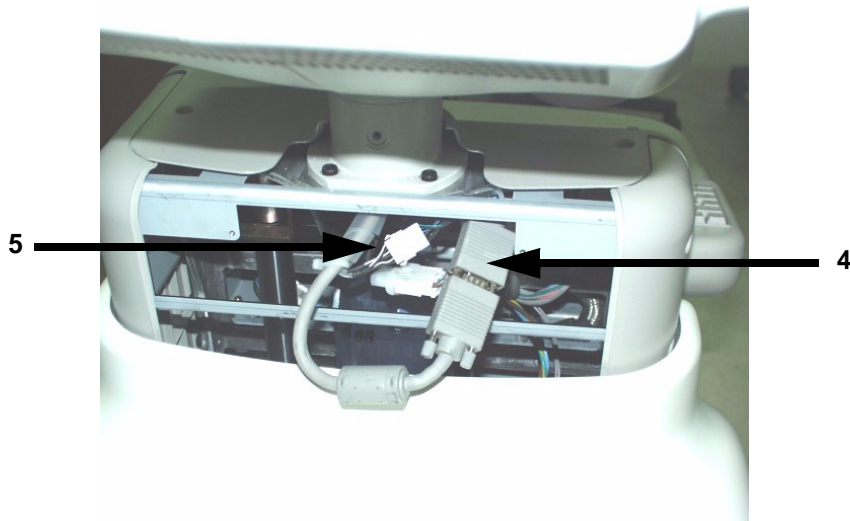

Figure 8-8 Disconnect two(2) Connectors (5-6)
4.) Disconnect two connectors on the other end (4-5). Refer to Figure 8-8.